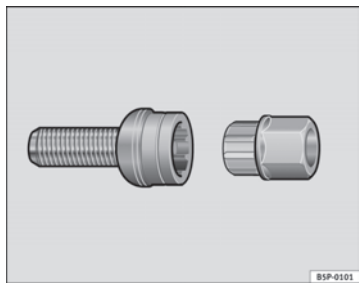

Fig. 175 Anti-theft wheel bolt
- Insert the adapter onto the wheel bolt and push it on as far as it will go ⇒ fig. 175.